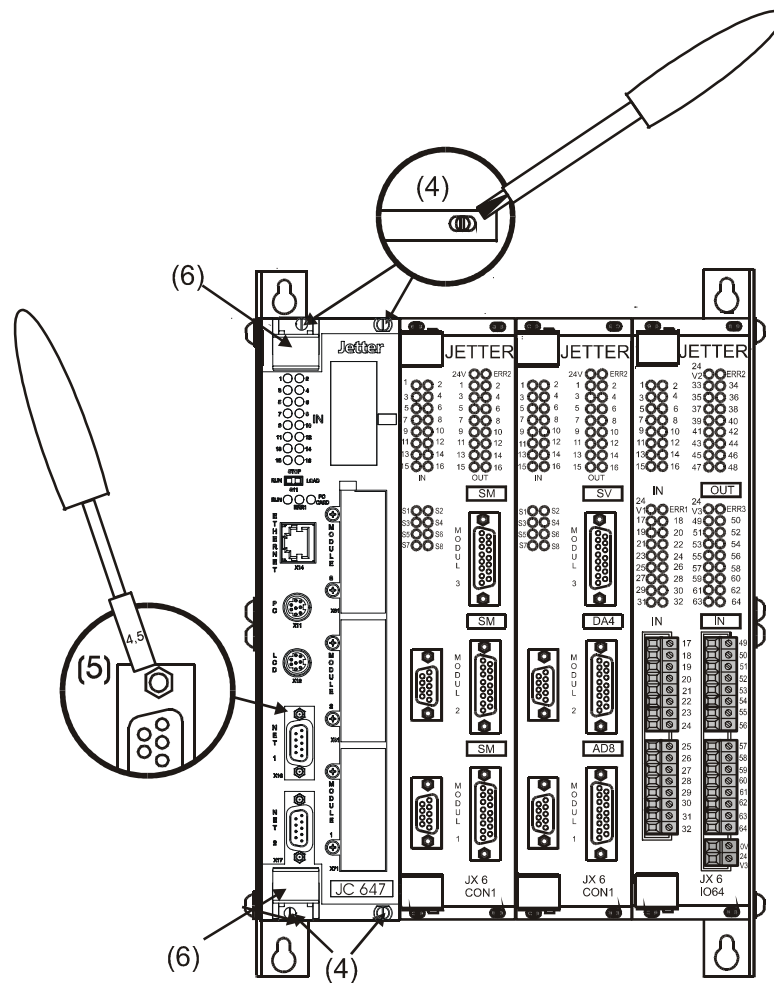

Fig. 21: Front View of the JX6 Rack with Basic Modules
- Use a screwdriver to loosen the four screws (6) connecting the basic module with the JX6 rack (refer to Fig. 21).
- Unscrew all hexagon screws (5) from the front panel of the basic module. The female SUB-D connectors are attached with these screws to the front panel (refer to Fig. 21). For this job use a socket wrench 4.5.
- Pull the basic module out of the JX6 rack using the two handles (6) (refer to Fig. 21).